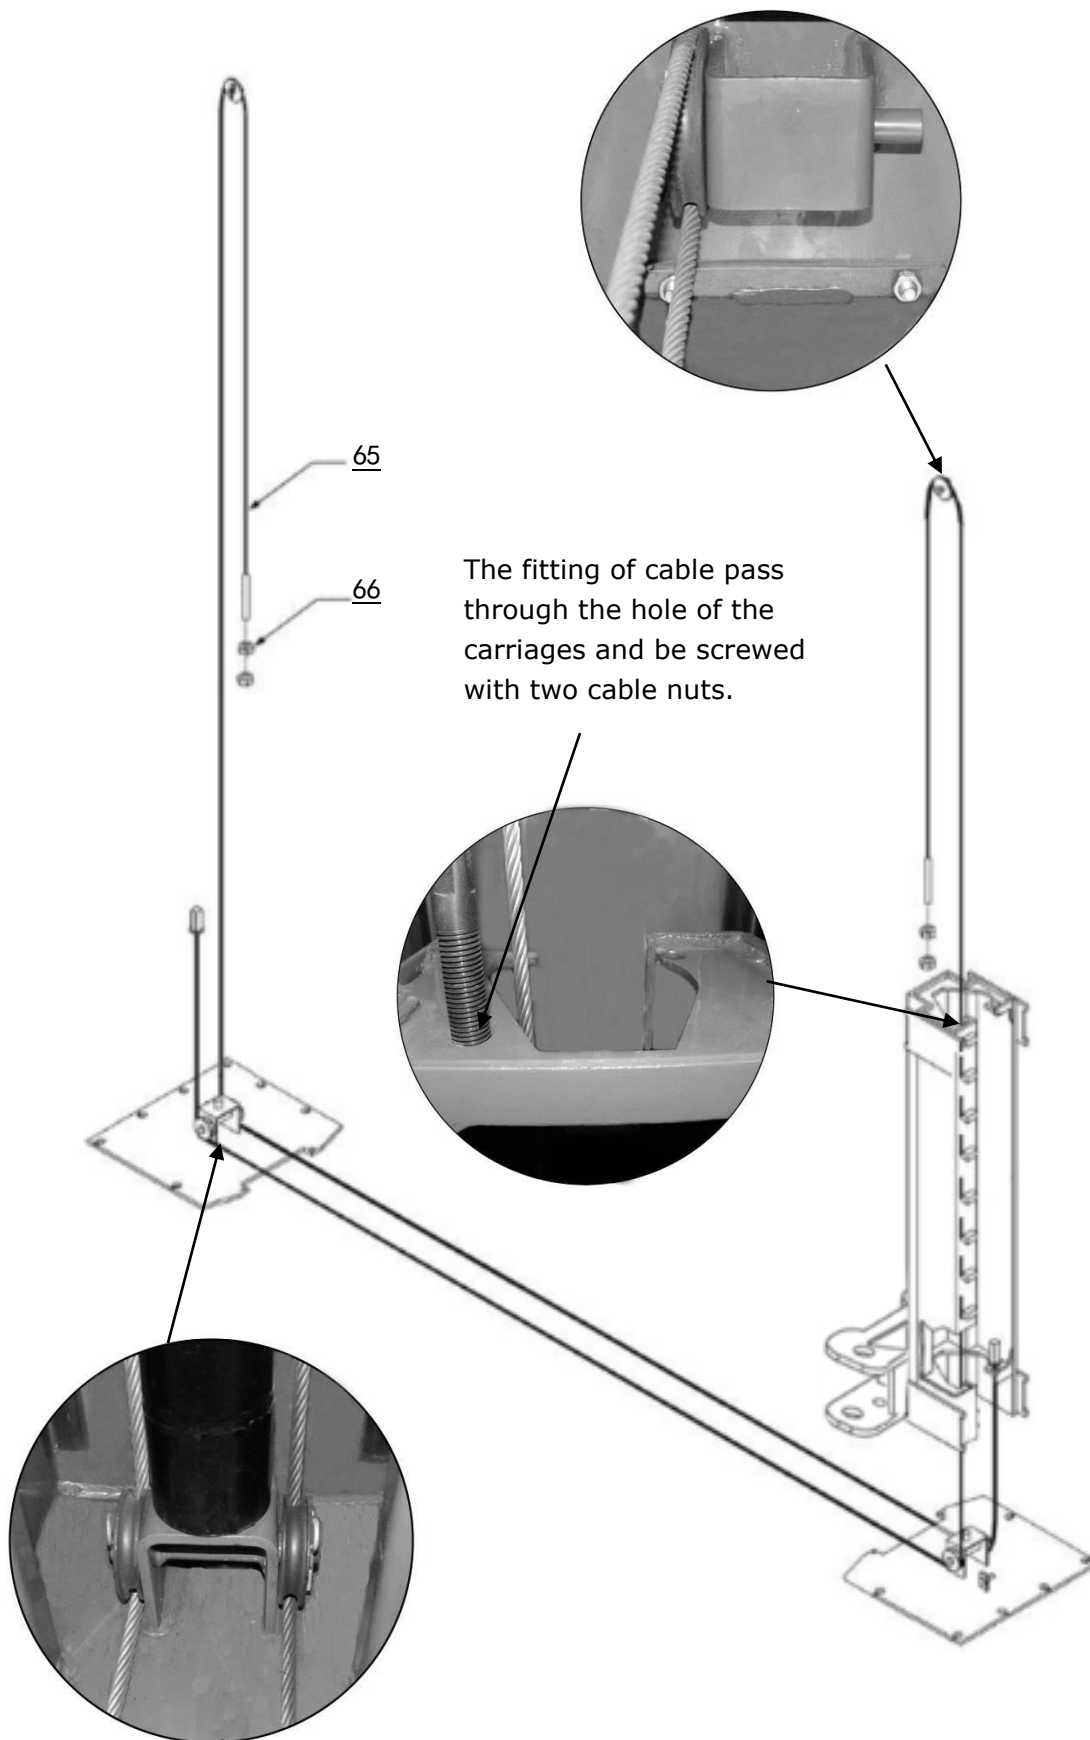

Fig. 17
H. Install cable (See Fig. 17)